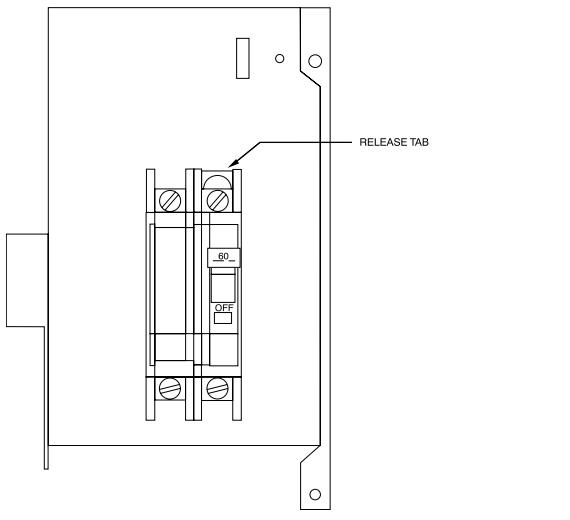

Fig. 22 – Conversion of Circuit Breaker
2. Pull the white plastic release tab on the bottom of circuit breaker straight out to release the circuit breaker from the bracket (Fig. 22).